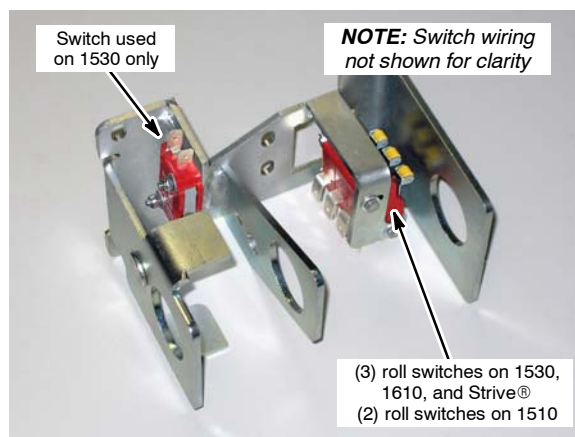

Fig. 6
7. **(1510, 1530, 1610, Strive® models)** Install roll switches to the new switch mounting bracket in the same order they were previously. Use the hardware kept from step 6, but only hand-tighten at this time. Final position of the switches will be determined at step 11g (Figure 6).